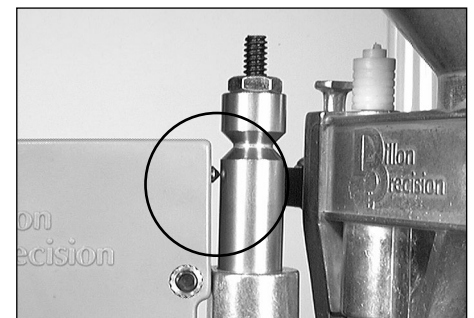

FIG 145
4. Raise the platform **FIG 145**. The contact pin is below the groove (the alarm sounds) indicating that the powder charge is double or more.